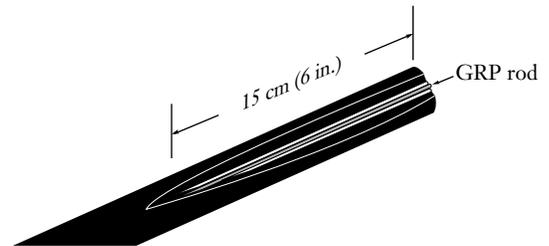

Figure 3
4.2 Starting at the end of the cable, use the cable sheath knife to shave off 15 cm (6 in.) of the outer sheath directly over the rods. Shave the sheath until the GRP rods and the rip cord on each side of the cable are visible (Figure 3).